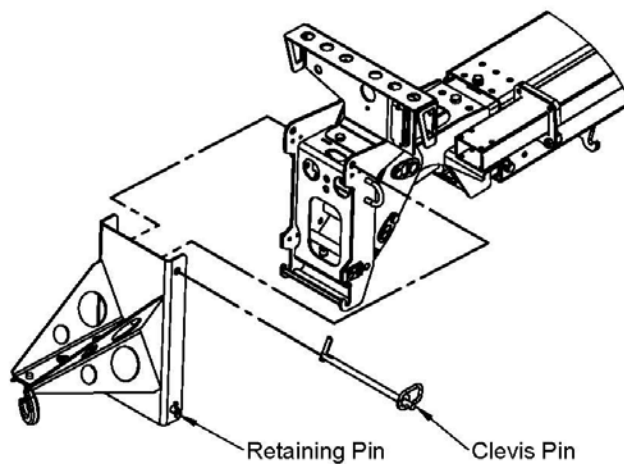

Figure 7-5. Material Lift Hook Installation
- Attach the material lifting hook to the mounting bracket on the boom nose and re-insert the clevis pin. See Figure 7-5.